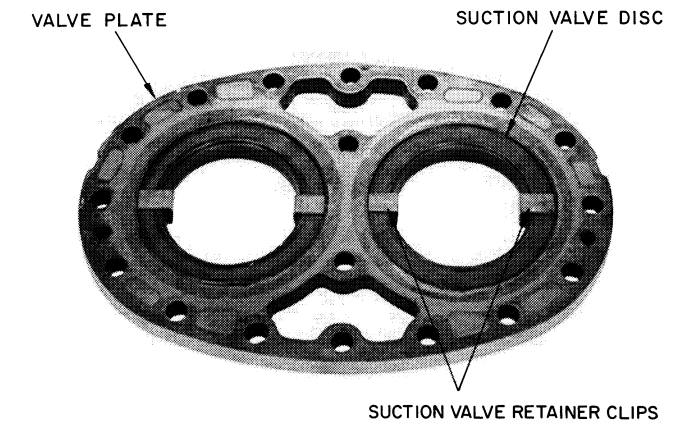

Fig. 33 — Valve Clips in Place
- Place suction valve disc on valve springs; press disc into valve plate recess. Slide valve retainer clips into place (Fig. 33). Clips must not cover valve lifter springs or pins. Valve retainer clips 5F20-2061 (5F compressors) and 5H40-2061 (5H compressors) are field supplied.